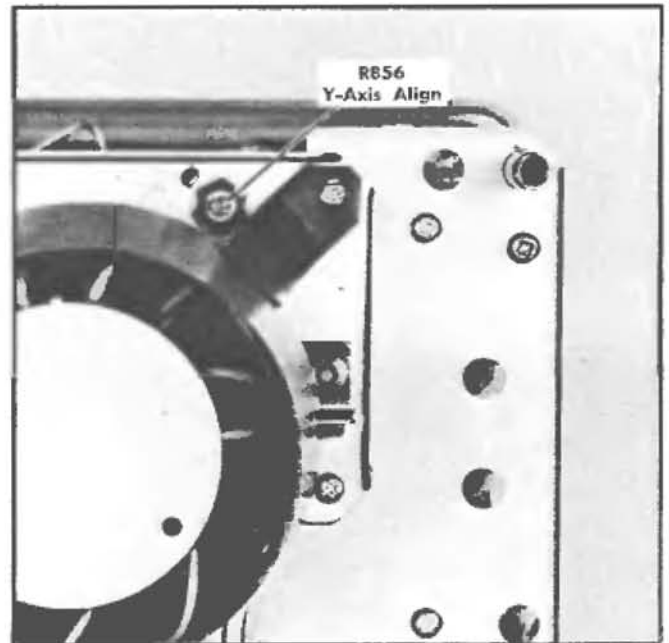

Fig. 6-11. Location of Y Axis adjustment (rear panel).
- ADJUST—Y Axis Align adjustment, R856 (see Fig. 6-11), to align the markers with the centerline.